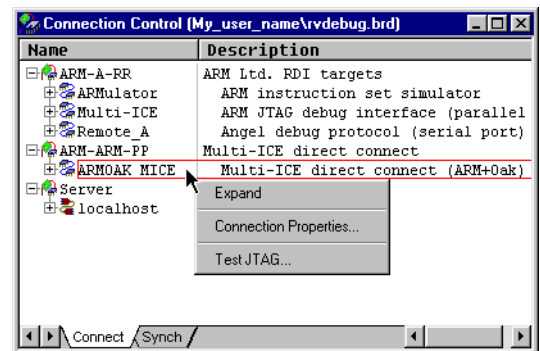

Figure 4-7 Editing JTAG files in the Connection Control window
3. Right-click on the chosen entry in the Connection Control window to display the context menu, shown in Figure 4-7.